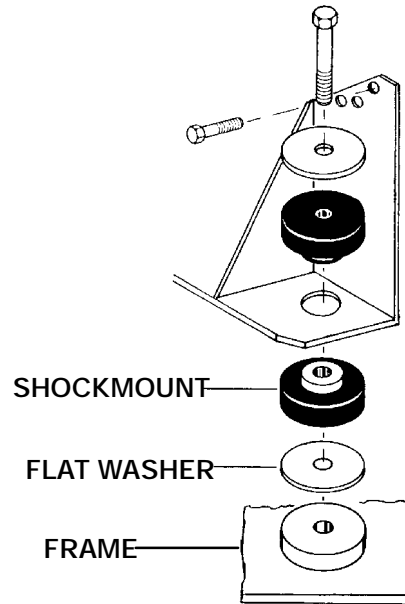

Figure 4-16. Shockmount Installation
2. Install shockmounts and flat washers as shown in Figure 4-16.